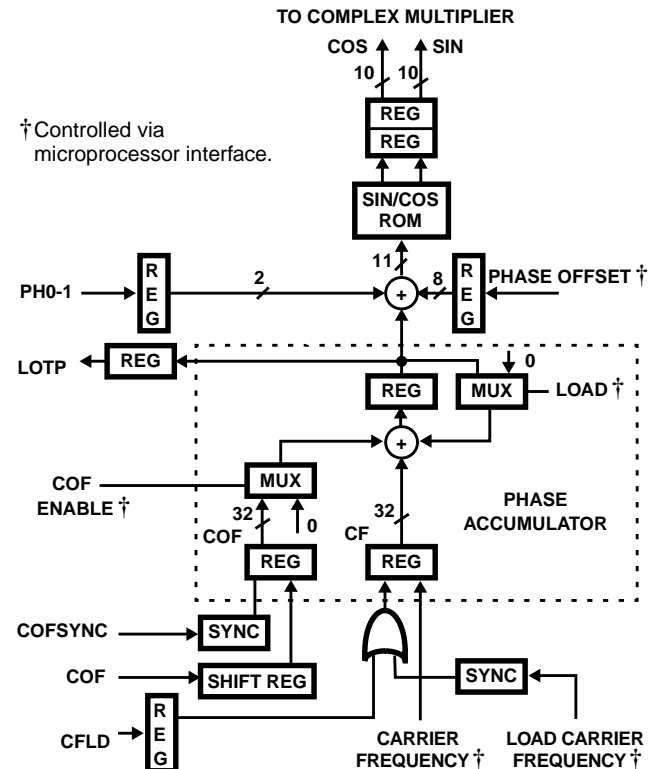

FIGURE 2. SYNTHESIZER NCO
The quadrature outputs of the NCO are generated by driving a sine/cosine lookup table with the output of a phase accumulator as shown in Figure 2. Each time the phase accumulator is clocked, its sum is incremented by the sum of
The phase of the NCO's quadrature outputs can be adjusted by adding an offset value to the output of the phase accumulator as shown in Figure 2. The offset value can be loaded into the Phase Offset (PO) Register or input via the PH0-1 inputs. If the PO Register is used, the phase can be adjusted from  $-\pi$  to  $\pi$  with a resolution of  $\sim 1.4^{\circ}$ . The phase offset is given by the following equation,